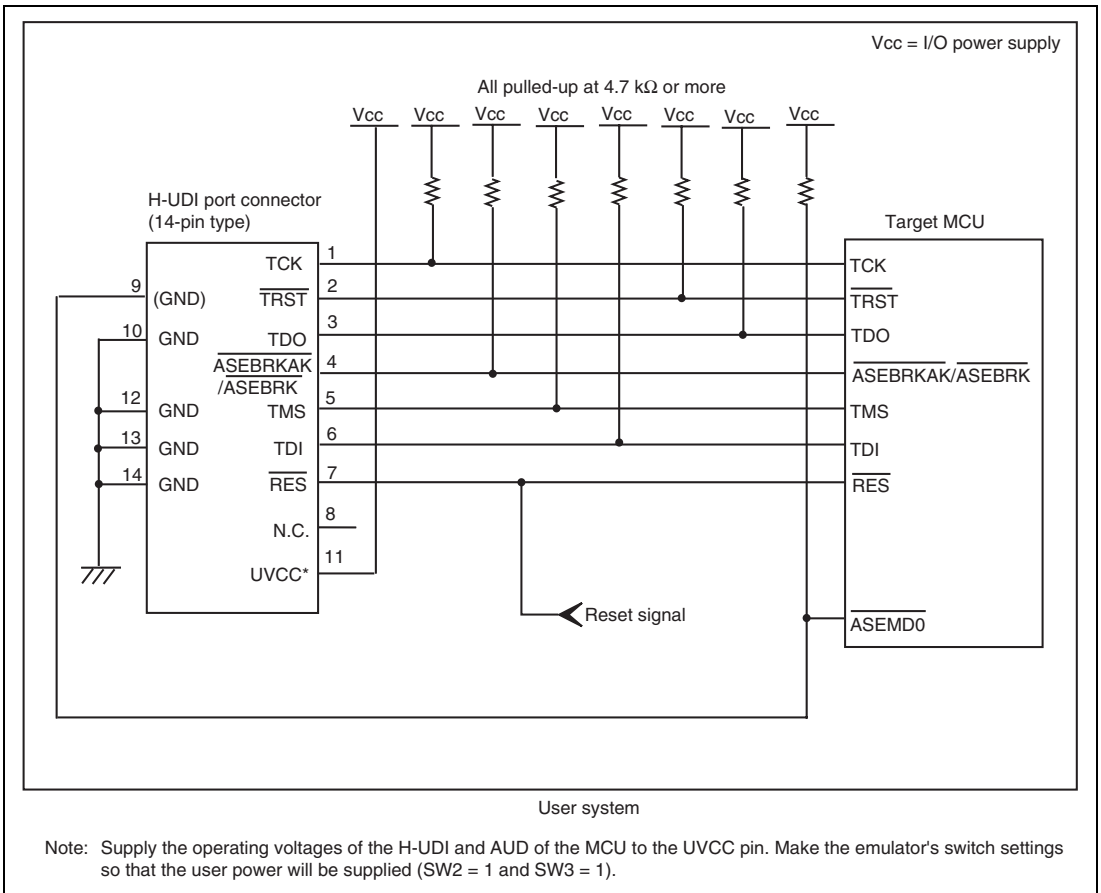

Figure 1.4 Recommended Circuit for Connection between the H-UDI Port Connector and MCU when the Emulator is in Use (14-Pin Type)
Figure 1.4 shows a recommended circuit for connection between the H-UDI port connector (14 pins) and the MCU when the emulator is in use.
- (1) When the emulator is used: `_ASEMD0 = 0`
- (2) When the emulator is not used: `_ASEMD0 = 1`Figure 1.4 shows an example of circuits that allow the `_ASEMD0` pin to be GND (0) whenever the emulator is connected by using the user system interface cable. When the `_ASEMD0` pin is changed by switches, etc., ground pin 9. Do not connect this pin to the `_ASEMD0` pin.
6. The resistance value shown in figure 1.4 is for reference.
When the circuit is connected as shown in figure 1.4, the switches of the emulator are set as SW2 = 1 and SW3 = 1. For details, refer to section 3.8, Setting the DIP Switches, in the SuperH™ Family E10A-USB Emulator User's Manual.